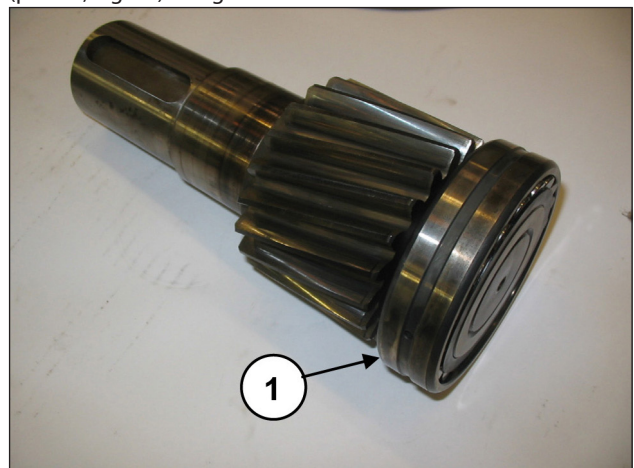
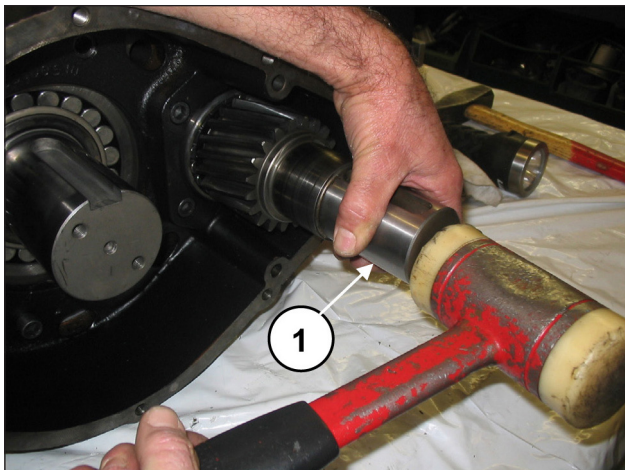

Fig. 60
Fig. 61
Pre-assemble the bearing on the pinion (pos. ①, Fig. 60) and fully insert the pinion in the seat on the reduction gear box (pos. ①, Fig. 61) using an extractor hammer.